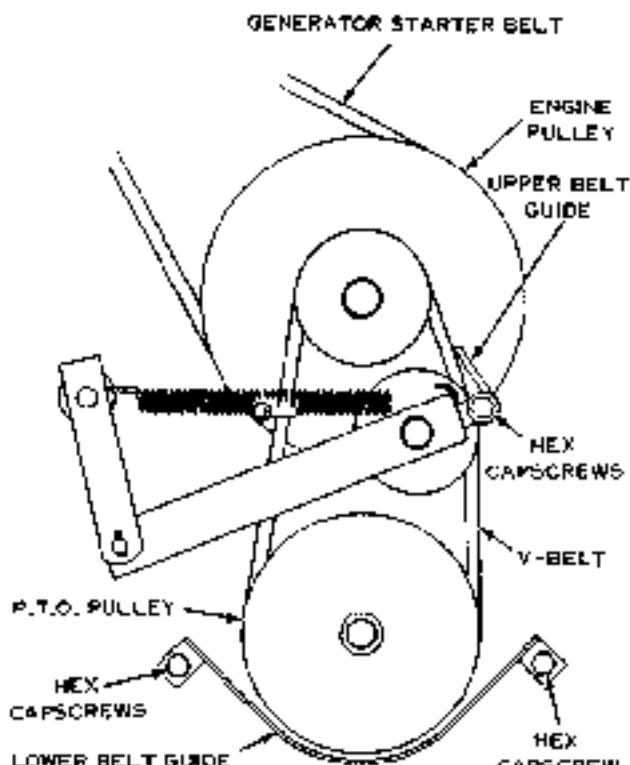

Figure 19
- With the P.T.O. lever still in the ON position, loosen the hex cap screw which secures the upper belt guide shown in Figure 19. Adjust upper belt guide for $1/8$ to $1/4$ inch clearance between belt and belt guide. Tighten hex cap screw securely.
P.T.O. BELT ADJUSTMENT (See Figure 19)